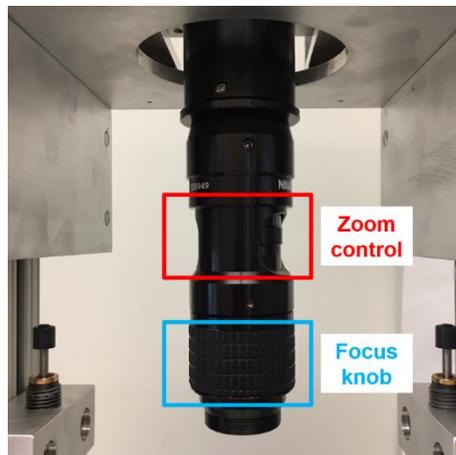

Fig. 41: The Zoom 6000 lens and its zoom control and focus knob.
- 3) Adjust the zoom using the zoom control (shown in red in **Fig. 41**) on the camera lens.
- 4) Adjust the lens focus by using the focus knob (shown in cyan in **Fig. 41**).